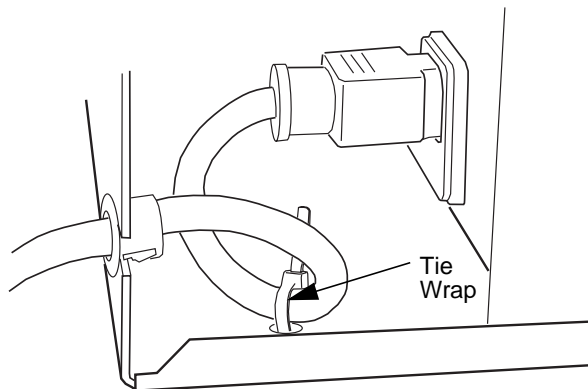

Figure 3-9. Service Loop
5. Insert the open bushing insulator into the slotted hole on the chassis back panel. Allow an excess "service loop" of the power cord between the power supply and the slotted hole as shown in Figure 3-9.
6. Use a tie wrap from kit HKN4059 to anchor the "service loop" to the chassis through the two holes in the bottom of the chassis as shown in Figure 3-9. Trim off the excess tie wrap.